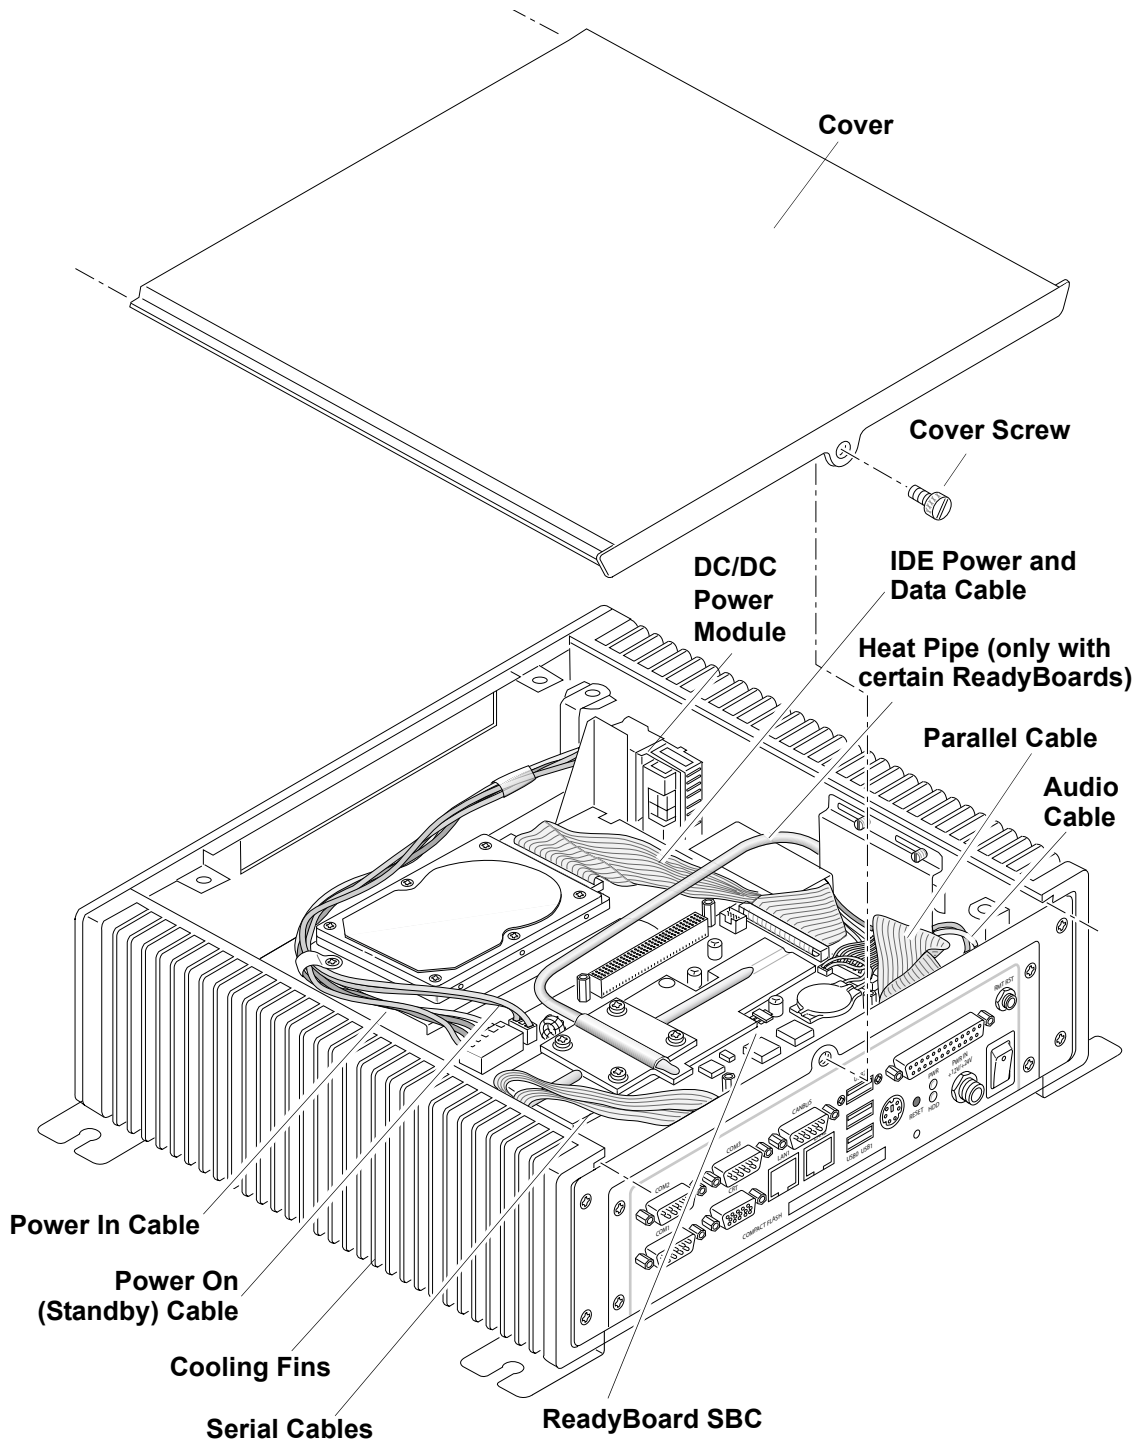

Figure 2-1. Exploded View of ReadySystem Fanless Assembly with Cover and Screws
4. Remove the cover from the ReadySystem Fanless enclosure. See Figure 2-1.